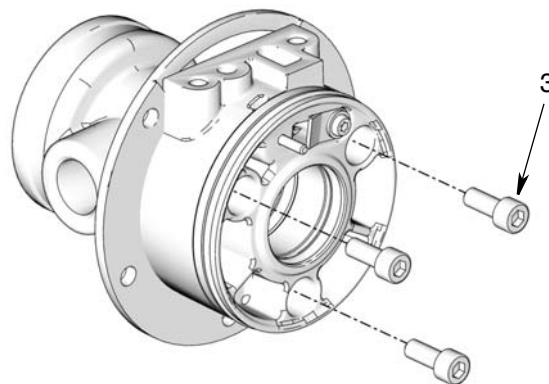

Fig. 13
3. Install 3 screws (3) (Fig. 13). Tighten with a 5 mm socket wrench and torque to 60-70 in lbs (6.8 – 7.9 N.m).